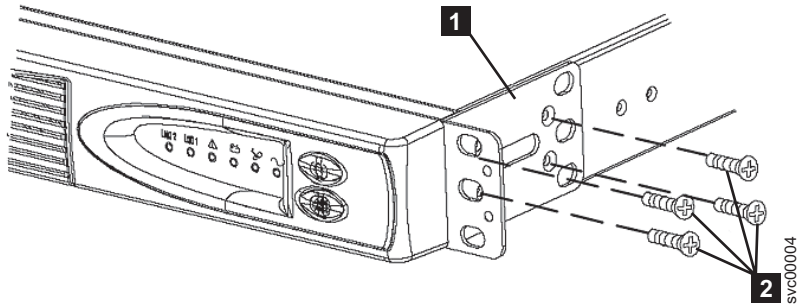

Figure 141. 2145 UPS-1U mounting bracket
2. On each side of the 2145 UPS-1U, attach the long end of a mounting bracket to the 2145 UPS-1U using four of the supplied M3 × 6 screws. See **2** in Figure 141 on page 360.